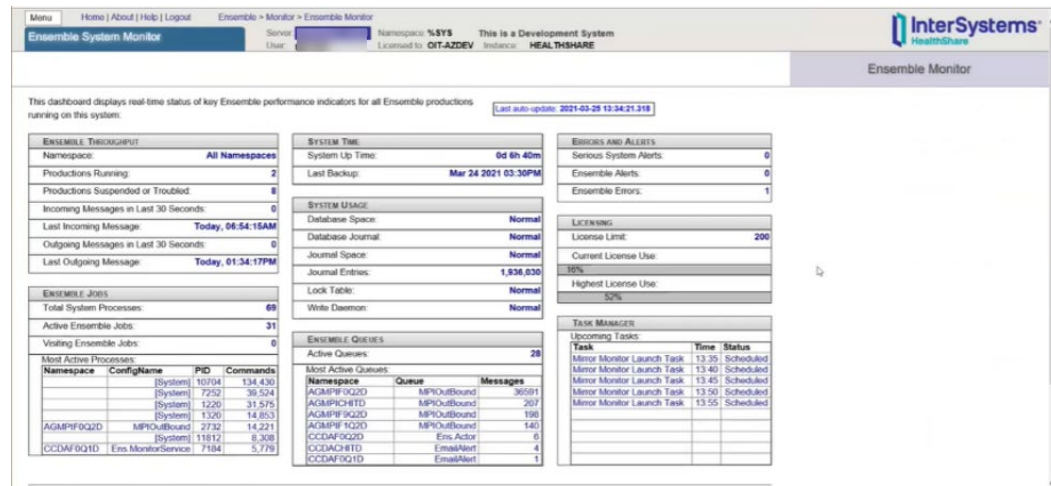

Figure 10-2: Systems Monitor page
2. The **System Monitor** page opens. It is a real-time monitor only. Configurations cannot be changed from this page (Figure 10-2).